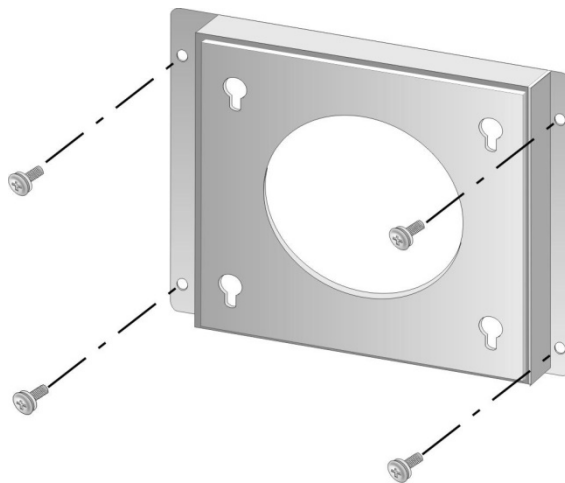

Figure 3-11: Wall-mounting Bracket
- Step 5:** Secure the mounting-bracket to the wall by inserting the retention screws into the four pilot holes and tightening them (**Figure 3-11**).